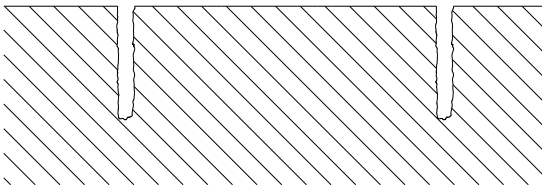

Fig. 1
- Drill the holes into the surface according to the holes in the bracket. (Fig.1)